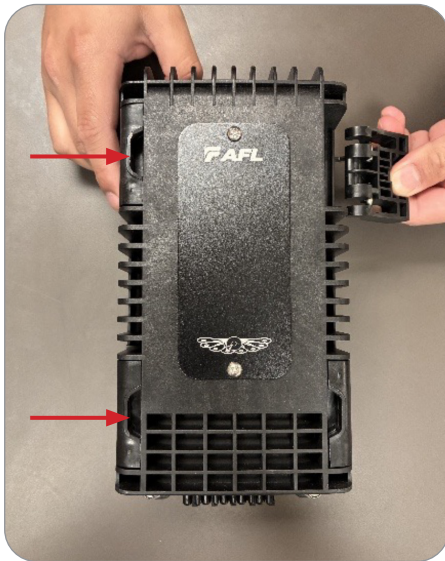

Figure 1
1. Pull the four (4) latches outward direction, using hands or tool, to open the enclosure. (Figure1)